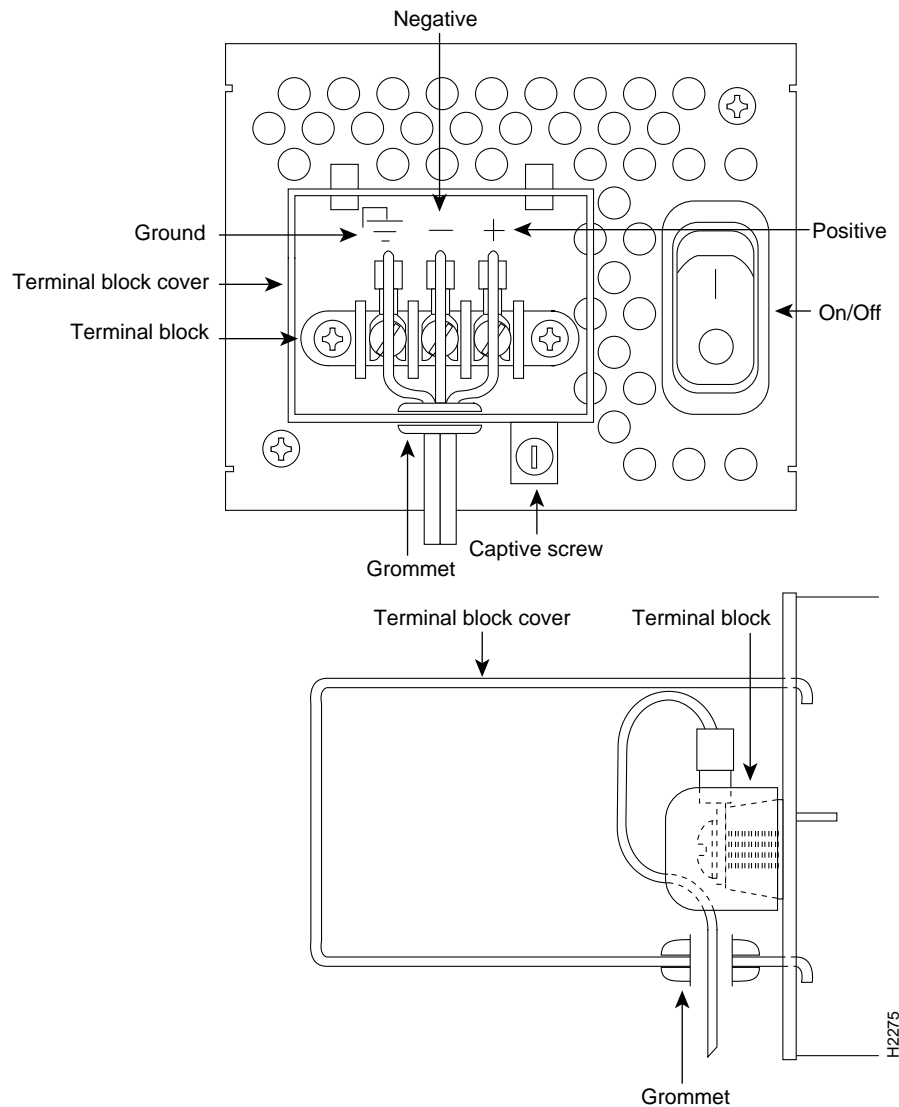

Figure 3 DC-Input Power Supply Connections
Figure 3 shows the Cisco 4000 DC-input power supply terminal block. Follow these procedures for wiring the terminal block.
- Step 3** Wire the DC-input power supply to the terminal block as shown in Figure 3. The proper wiring sequence is ground to ground, positive to positive, and negative to negative.